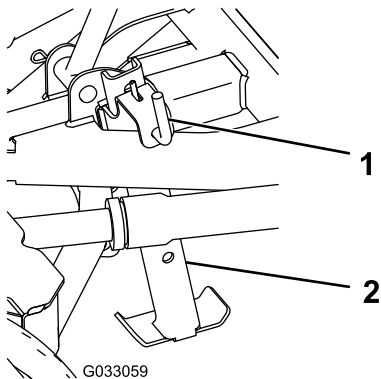

Figure 4
2. Pull the kickstand spring pin to release and lower the kickstand (Figure 4).